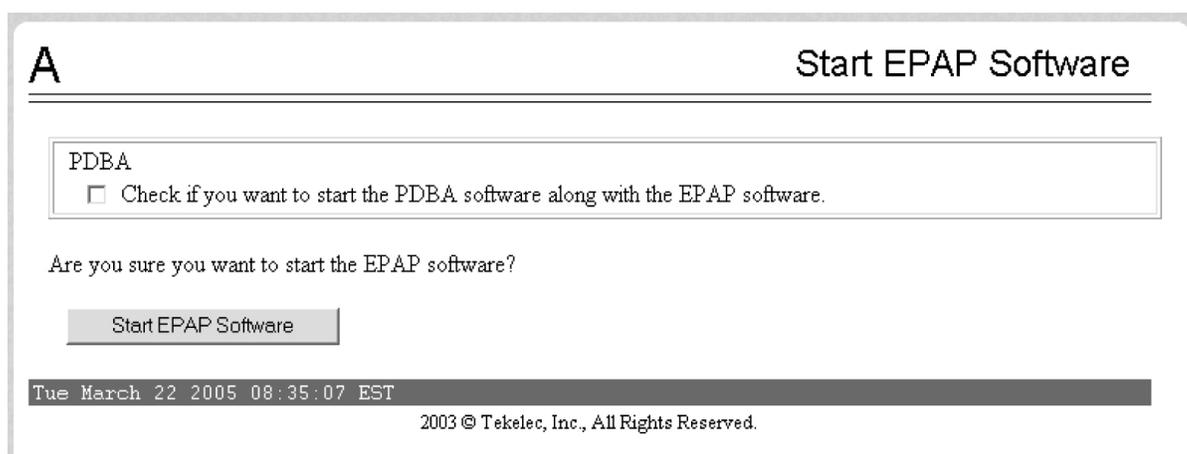

Figure 11: Start EPAP Software
10. On the Start EPAP Software screen shown in Figure 11: Start EPAP Software, click **Start EPAP Software**.